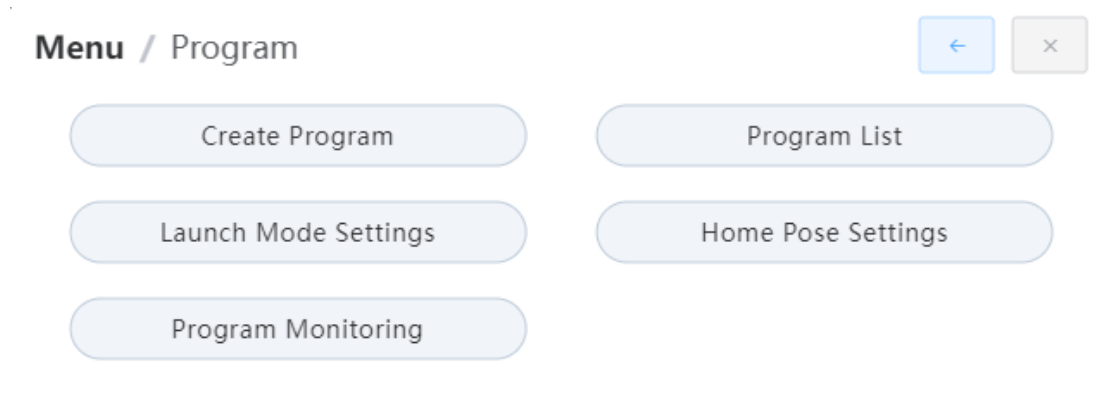
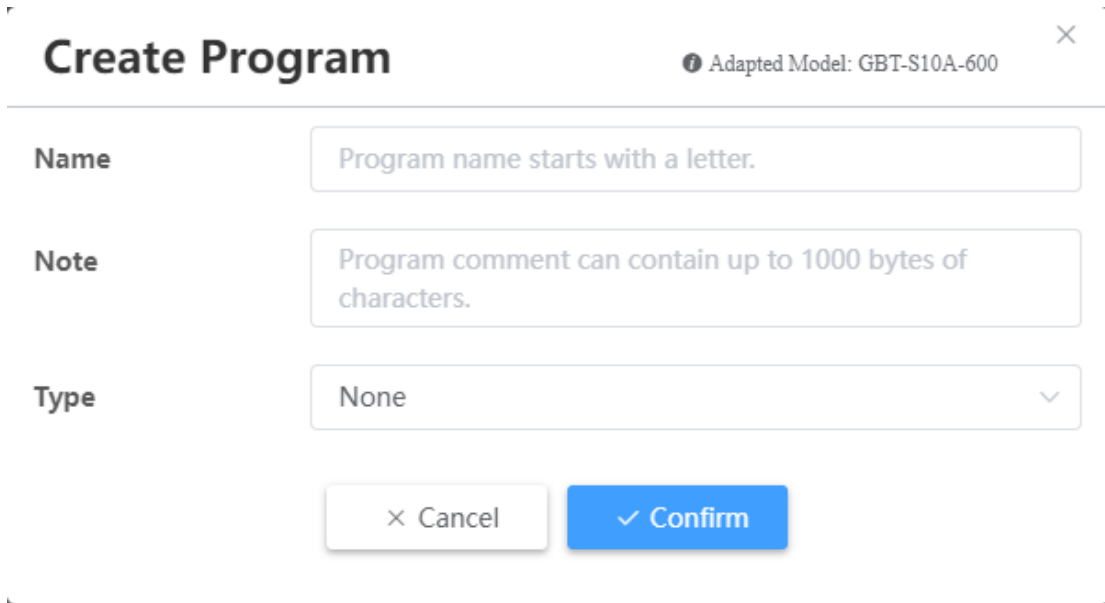
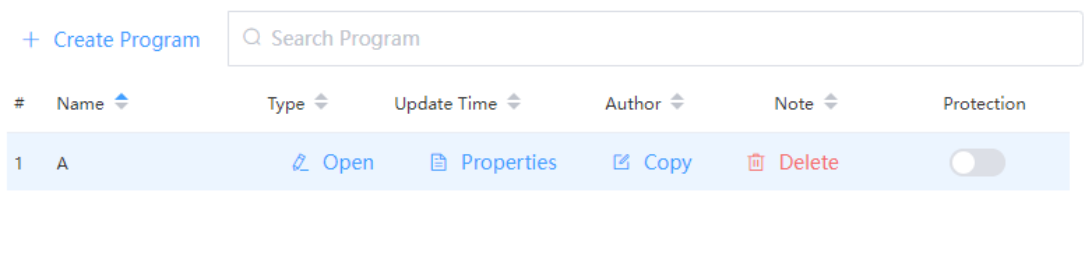

Fig. 4.1 Program Menu Interface
Fig. 4.2 Create Program Window
Fig. 4.3 Program List Interface
1. Click "Menu Button" → "Program" to enter the interface as shown in Fig. 4.1. Click "Create Program", and a new program interface will pop up as shown in Fig. 4.2. After filling in program name and comments and selecting the program type on this interface, click "Confirm" to complete the program creation.
2. In the second way, click "Menu Button" → "Program" → "Program List" to enter the interface as shown in Fig. 4.3. Click "New Program", and an interface will pop up as shown in Fig. 4.2. After filling in program name and comments and selecting the program type on this interface, click "Confirm" to complete the program creation.